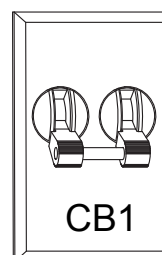

Figure 22. Main Circuit Breaker (CB1)
1. Place the main circuit breaker, CB1 (Figure 22) on the control panel to the **ON** position.